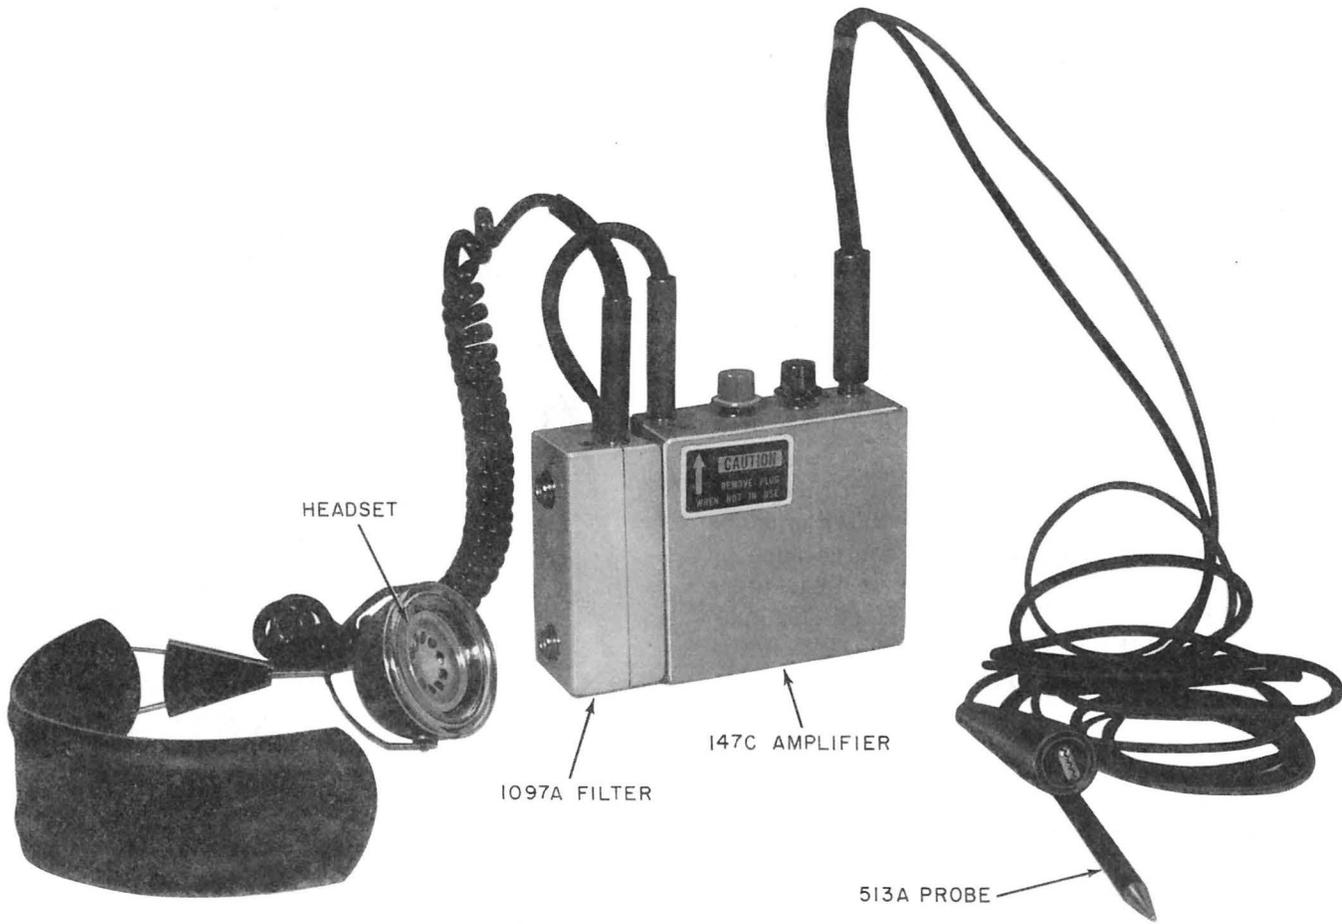

Fig. 2—1097A Filter Attached to 147C Amplifier
**2.02** The 1097A filter contains no batteries but is powered from the 147C amplifier through the REC jack. Both units are turned on by plugging the 1097A filter into the REC jack of the 147C amplifier as shown in Fig. 2. Operation of the 1097A filter requires a 147C amplifier because the 147B amplifier DOES NOT supply the necessary battery voltage. TO CONSERVE THE BATTERY, UNPLUG THE 1097A FILTER FROM THE 147C AMPLIFIER WHEN THE UNITS ARE NOT BEING USED.